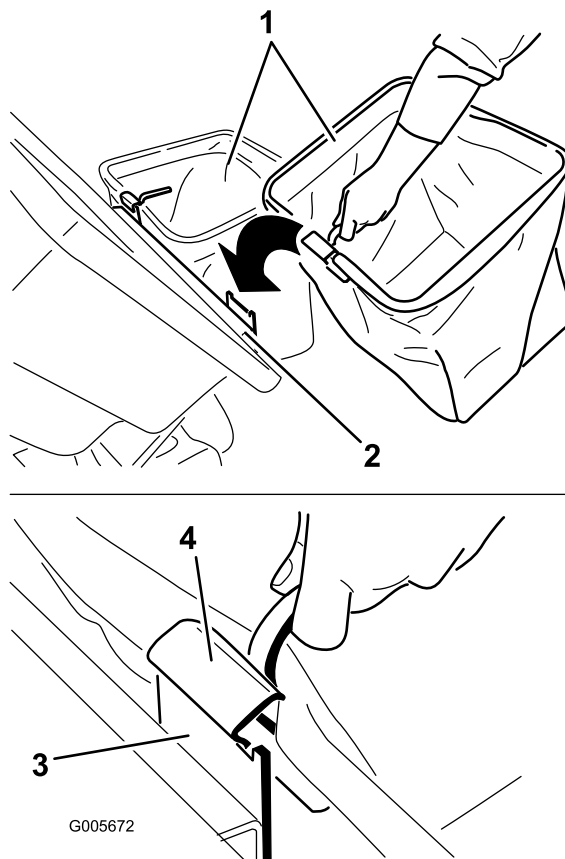

Figure 31
5. Install the bags by sliding the bag frame hooks onto the retaining brackets (Figure 31).